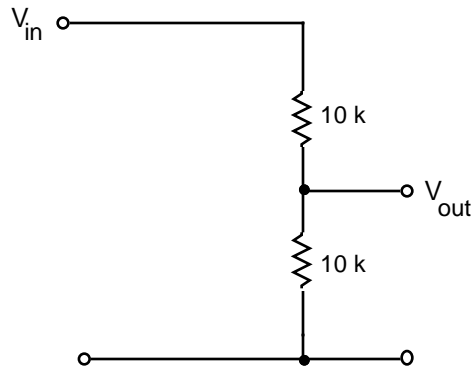

Fig 1.2
a) Construct the voltage divider of Fig. 1.2. Use the 12 V dc power supply of the breadboard for  $V_{in}$ . Measure the open-circuit output voltage. Now connect a 10 k $\Omega$  resistor on the